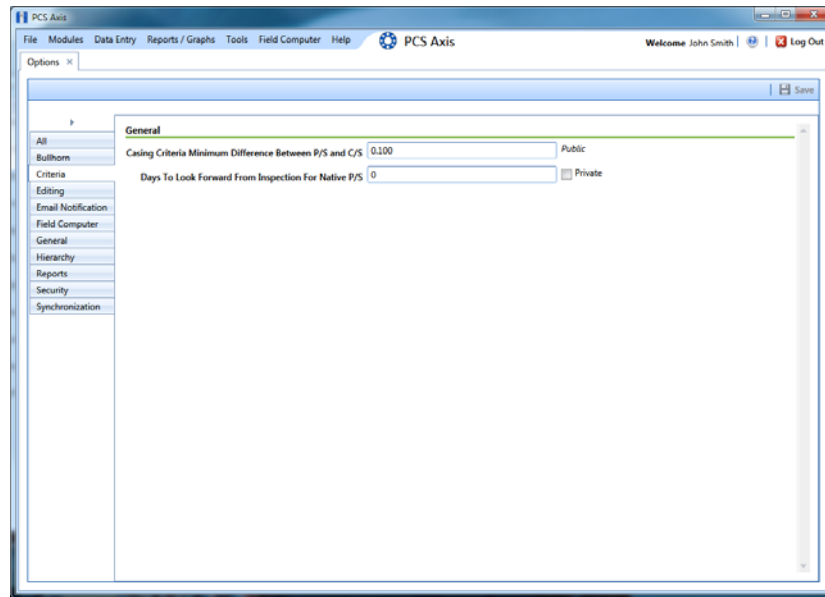

Figure 2-7. Criteria Options
- 1 If the *Options* window is not open, click **Tools > Options** to open the window. Then click the **Criteria** tab to open the *Criteria* options page (Figure 2-7).